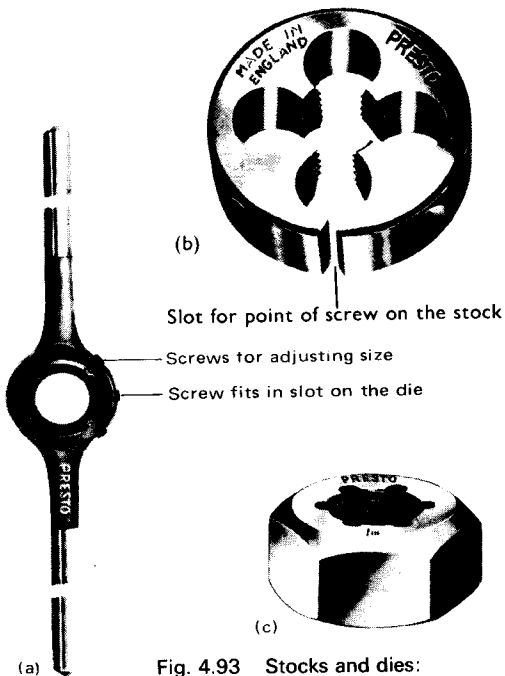

Fig. 4.93 Stocks and dies:
3. *External threads.* For cutting external threads stocks and dies are used, Fig. 4.93.